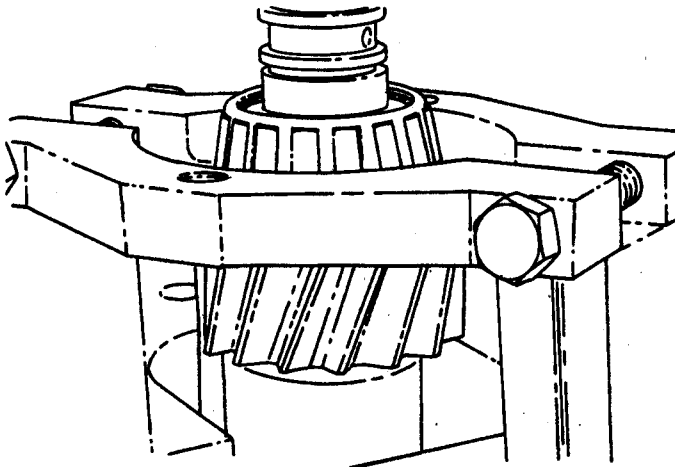

Figure 49.
2. Remove taper roller bearing (128) using a collet tool and press as shown in Figure 49).